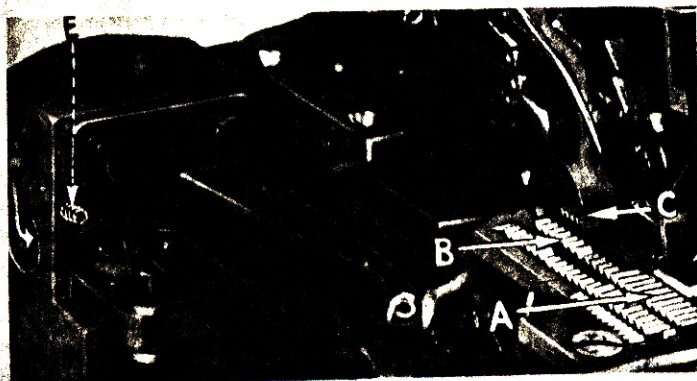

Fig. 12
On Style 39500 A, set the three feed dogs (A, B, C, Fig. 12) so the top surfaces of teeth all lie in the same plane. This can be checked by sighting across the teeth with a straight edge. Feed dogs should now be leveled with throat plate surface by rotating the tilting adjusting pin (D). This raises or lowers the back end of both feed bars at the same time.